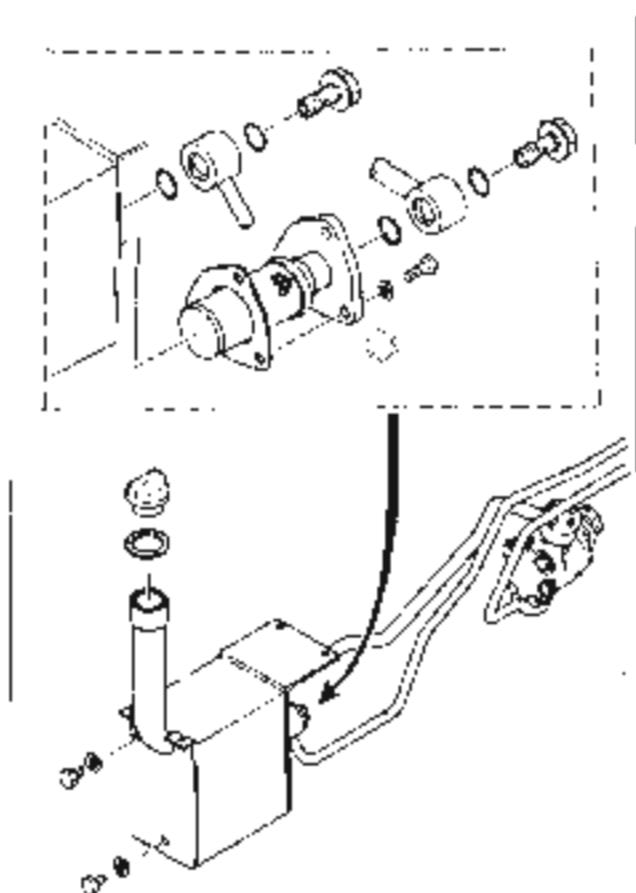

Figure 49 - Power Steering Oil Filter
Changing Oil Filter: Change the oil filter every 500 hours. The filter is located at the front of the reservoir. (Figure 49)
7. Turn the oil filter clockwise. (See Figure 49)